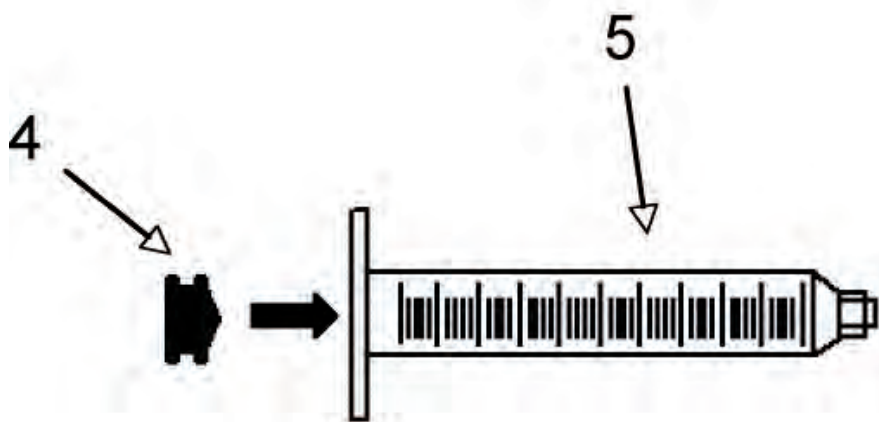
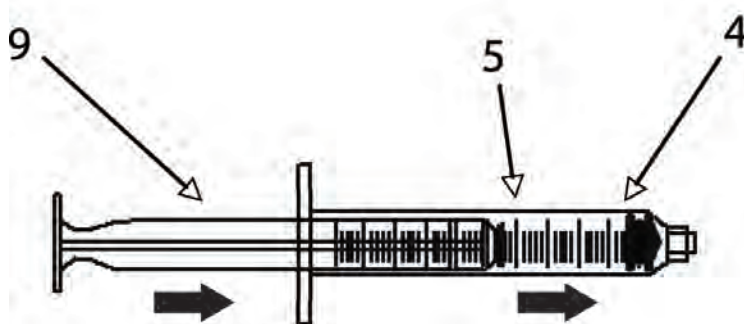

Figure 4.30. Viscous Fluid Extraction Setup.
Figure 4.31. **Viscous Fluid Extraction Setup.**
4. Place the black piston into the syringe barrel and use the plunger to push the piston all the way down to the tip of the syringe. (Refer to Figure 4.30 and Figure 4.31.)